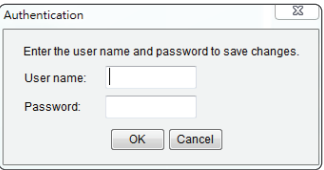

Figure 3. Authentication window.
- 7. You will need to enter a User Name and Password for the Power Management Card in the authentication window, as shown in Figure 3.